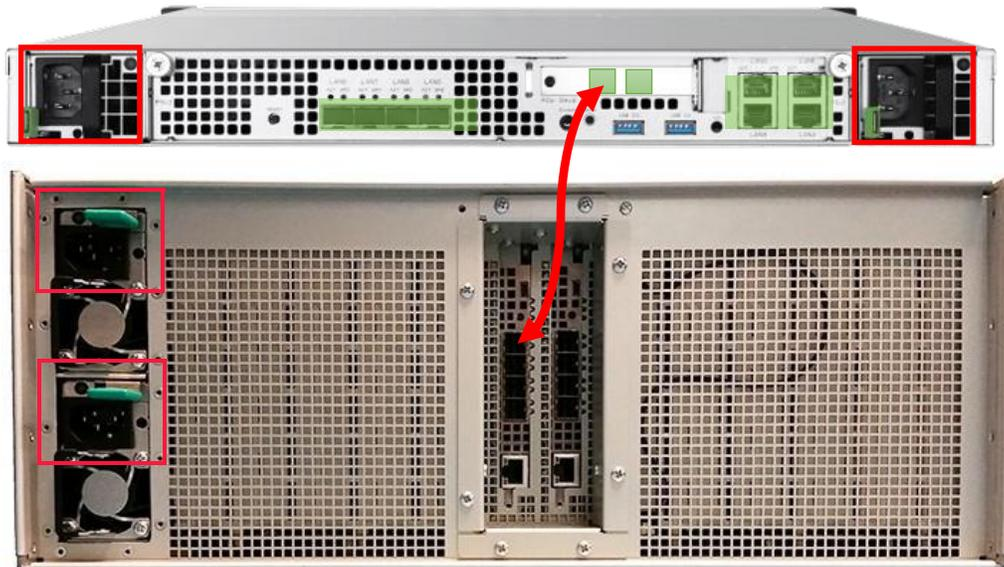

Figure 4.3 Mini-SAS ports and PSU jacks
1. Connect the provided HD mini-SAS cable as shown in Figure 4.3.
4. Verify that the power cords are plugged into their respective jacks on the enclosures rear. The locations of the jacks are shown in Figure 4.3.